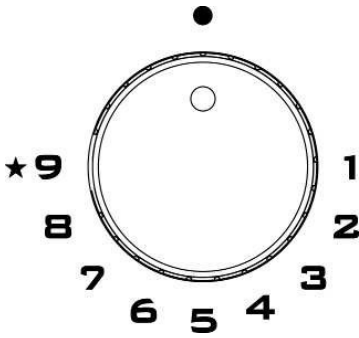

Fig. 17
Press and turn the appropriate knob to the left, setting it to the Maximum position (position 9, Fig. 17), then press the knob. The hob is equipped with knobs with 9 flame settings: with each click, the flame decreases, position 1 is the smallest flame.
Igniting burners with gas flow protection Turn the knob of the burner with gas flow protection to the left, setting it to the Maximum position (position 9, Fig. 17) until it stops. Now press the appropriate knob and repeat the steps described above. When the burner ignites, hold the knob down for approx. 10 seconds. Then follow the instructions described above. Then follow the instructions described above.
- Once boiling point is reached, set the knob to the minimum position (position 9, Fig. 17).
- Burners with a flame failure device can only be lit when the appropriate knob has been turned to the fully open position (Position 9, Fig. 17).
- Light the burner and set the knob to the "Minimum" position (small flame, Fig. 17).